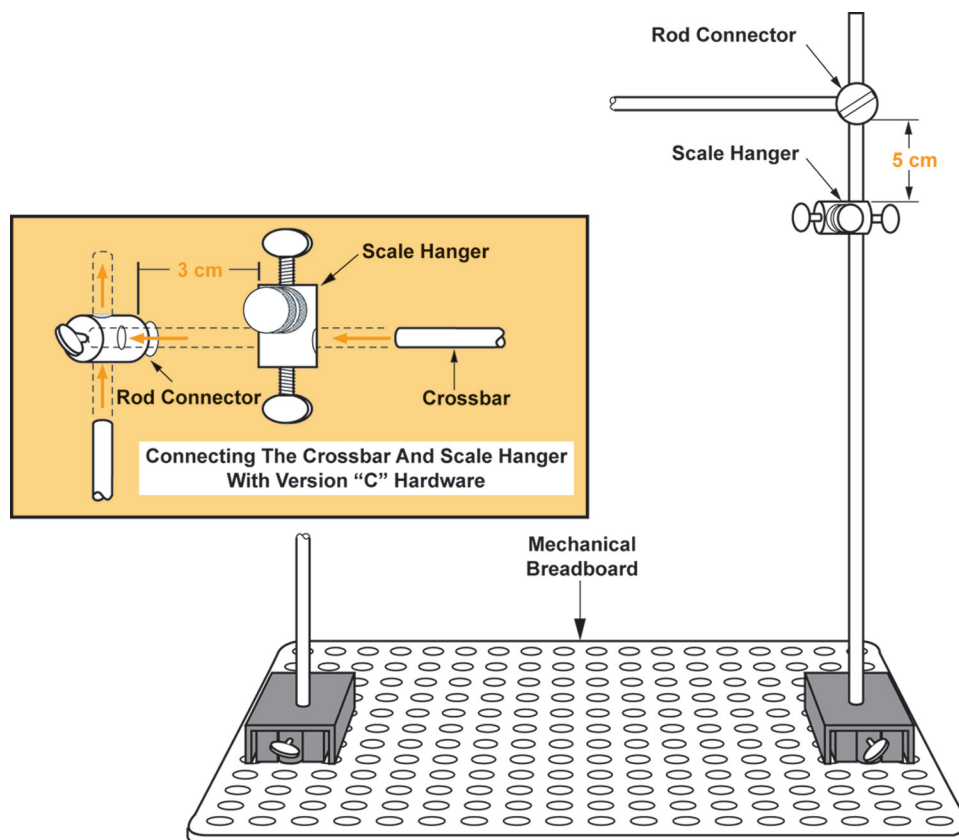

Figure 2
- 1. Use the mechanical breadboard, support rods, long crossbar, rod connectors, and scale hangers to assemble the support stand. Details of the assembly are shown in Figure 2.
- ❑ 2. Mount the two scale hangers. Position one on the crossbar, 3 cm from the left rod connector. Position the other hanger on the right support rod, 5 cm below the crossbar. See Figure 2.